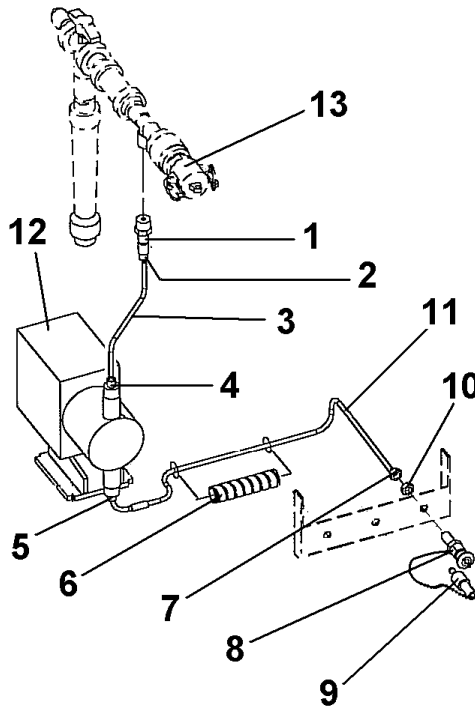

Figure 6. Chlorine Tubing.
1. Disconnect chlorine discharge tubing at nuts (2) and at (4) at chlorine pump P7 (12). Figure 6.
Refer to Figure 6 for this procedure section.